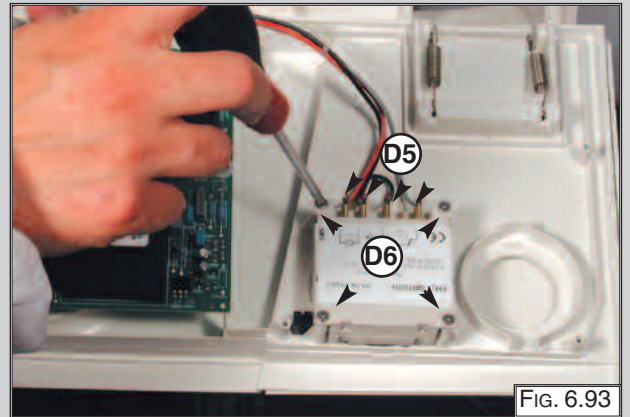

FIG. 6.93
1. Disconnect the electrical connections "D5" from the clock (FIG. 6.93);
2. Remove screws "D6" (FIG. 6.93);